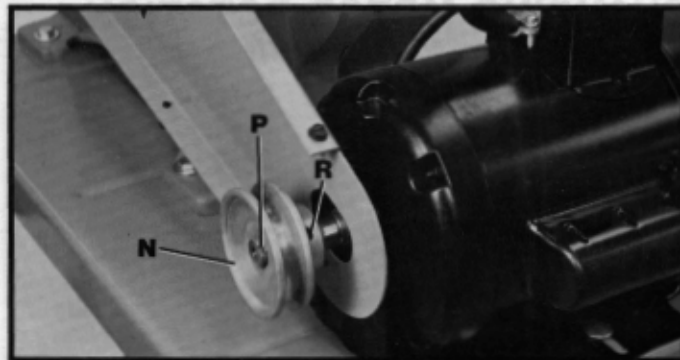

Fig. 19
6. Assemble motor pulley (N) Fig. 19, to motor shaft with hub of pulley in the "in" position. Insert key (P) in keyway of motor shaft and tighten set screw (R) in motor pulley.